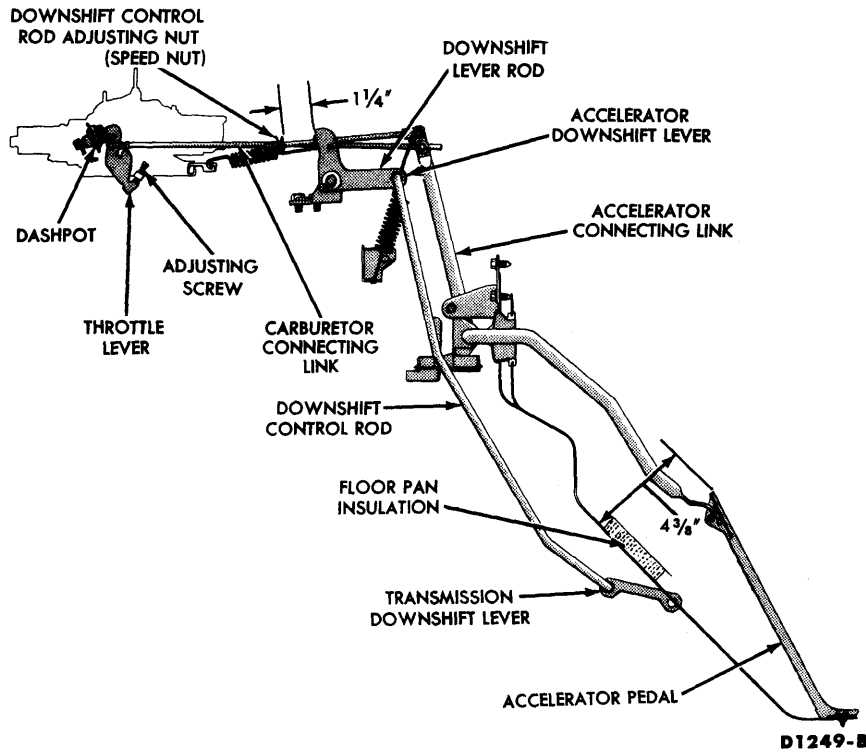

FIG. 11—Throttle Linkage
The carburetor throttle lever must be against the idle adjusting screw (Fig. 11), at specified idle rpm in D1 or D2.
6. Adjust the accelerator pedal height (Fig. 11) by disconnecting the carburetor connecting link from the carburetor and turning in or out as necessary.
7. Position the speed nut on the downshift lever rod $1\frac{1}{4}$ inches from the forward face of the bushing in the downshift lever (Fig. 11).